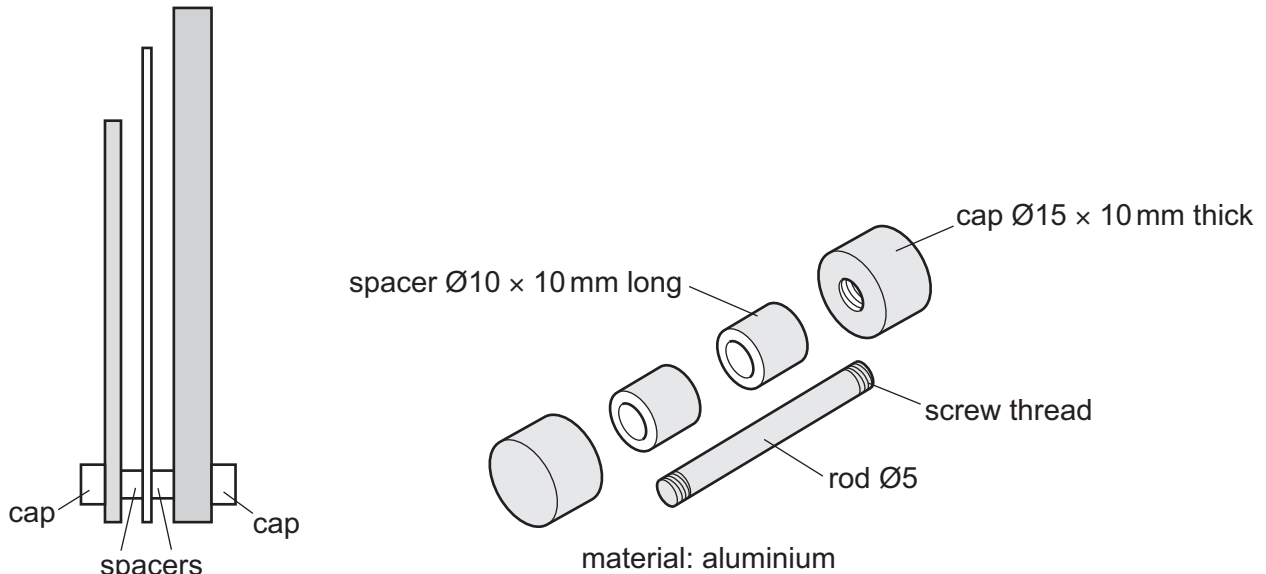

Fig. 11.3
- (d) Fig. 11.3 shows details of the caps, spacers and rod that are used to keep the three parts of the trophy held securely in position.